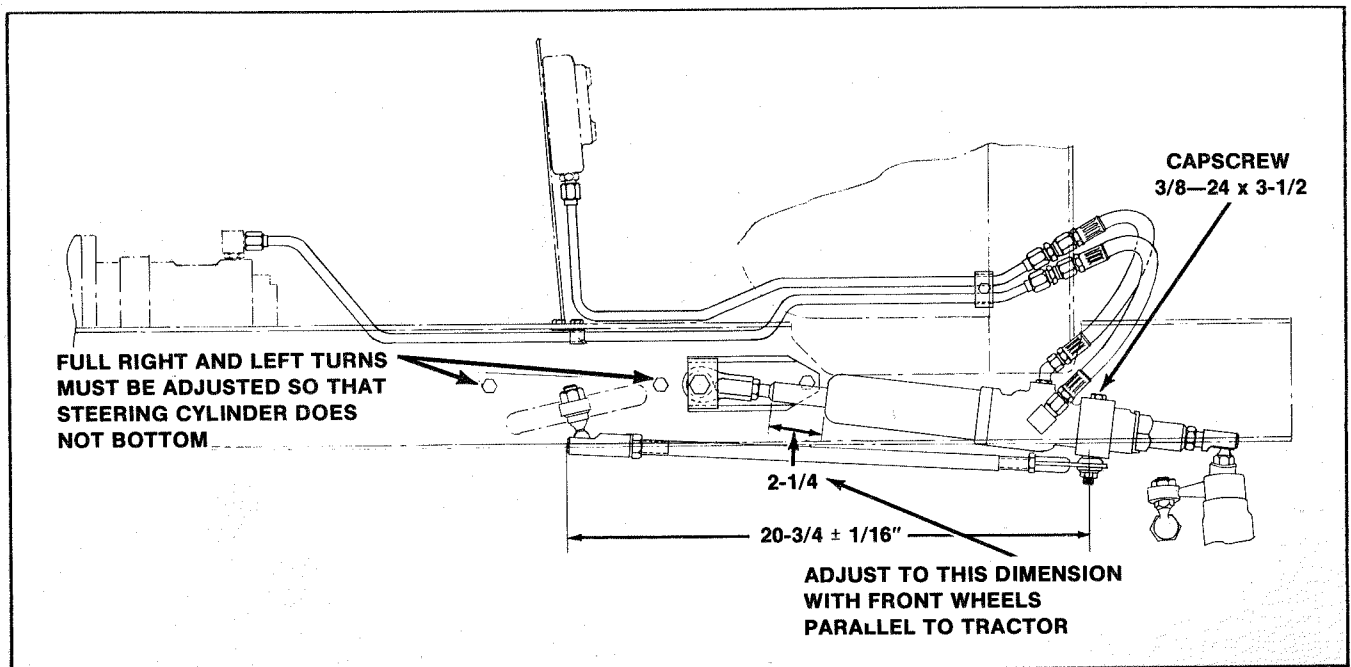

Figure 8
13. Install hex nut 1/2—20 and rod end onto new drag link. Install hex nut 5/8—18 onto other end of drag link. Turn drag link into ball joint on rear steering arm. Adjust to $20\text{-}3/4 \pm 1/16$ inches from the rear end of ball joint in steering arm to the center of self aligning bearing in the rod end. See figure 8.
14. Install hex capscrew 3/8-24 x 3-1/2 through power steering valve at front end. Place 1/2 x 5/8 bushing into rod end on drag link. Place rod end and bushing over bottom end of above capscrew and secure with hex jam nut 3/8-24. See sketch, figure 8.
15. Position front wheels so they are parallel to the tractor frame. With the wheels set as above the distance from the face of the cylinder to the start of the chamfer on the piston rod should be 2-1/4 inches. See figure 8. If adjustment is necessary loosen jam nuts both on the ball joint and rod end.